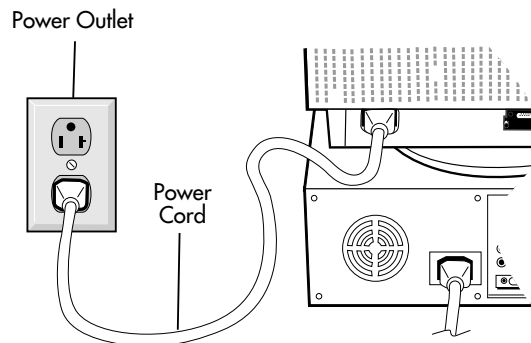

Figure C.1
**NOTE: To obtain the MultiSync Macintosh cable adapter, call NEC Technologies at (800) 820-1230.**
5. Connect one end of the power cord to the MultiSync monitor and the other end to the power outlet (Figure C.1).